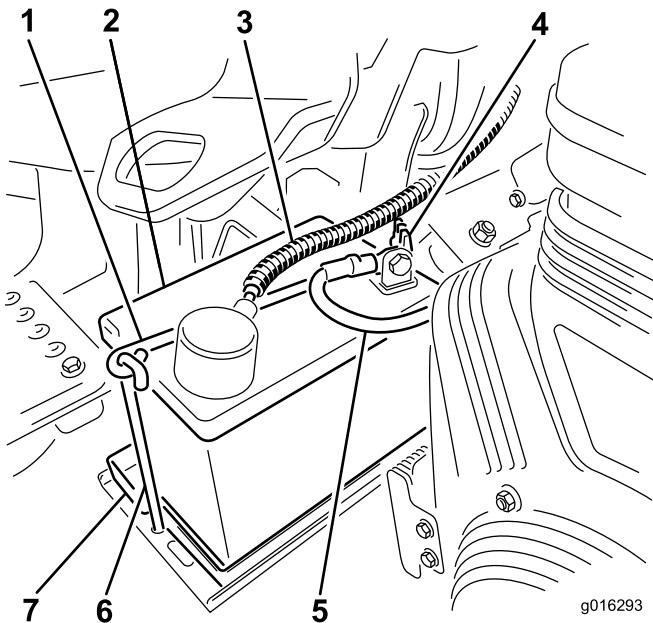

Figure 8
- Place the battery on the battery tray and secure it with the battery clamp and fasteners removed previously (Figure 8).
- Install the positive cable (red) to the positive (+) terminal and then the negative cable (black) to the negative (-) terminal of the battery and secure them with the bolts and nuts (Figure 8). Slide the rubber boot over the positive terminal to prevent a possible short from occurring.